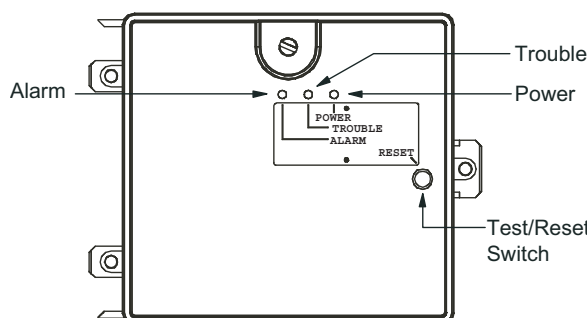

Fig. 53 — Controller Assembly
- The contacts on the controller's supervisory relay switch positions. (See Fig. 53.)